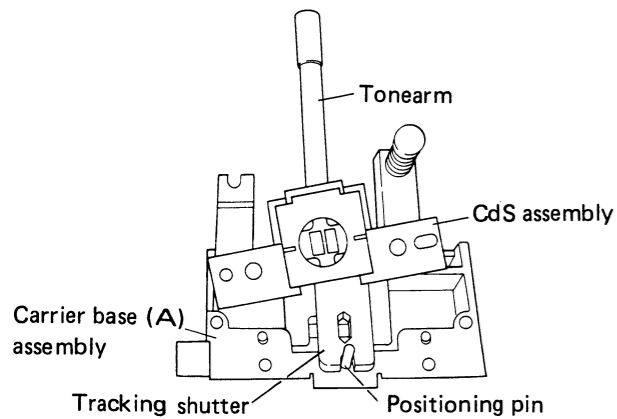

Fig. 3-9 Tracking shutter mounting 1
5. Sever the carrier base (A) ass'y positioning pin with a pair of nippers (Fig. 3-9).